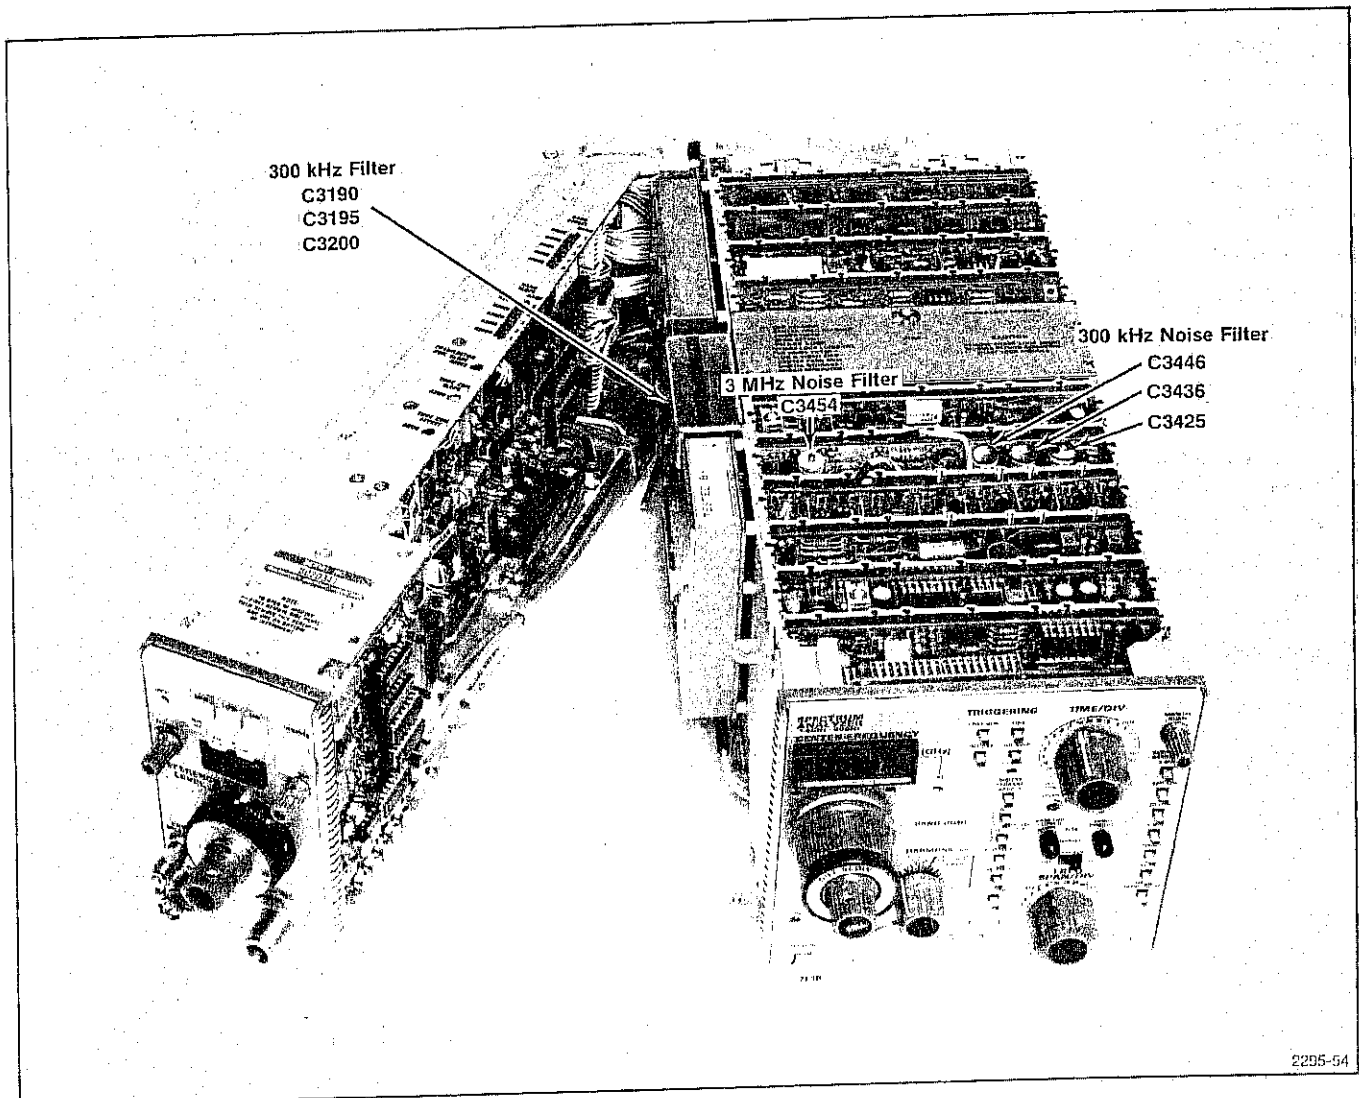

Fig. 4-46. Adjustments for 300 kHz Filter, 300 kHz Noise Filter, and 3 MHz Noise Filter.
d. Adjust the 300 kHz filter and the 300 kHz Noise Filter with C3190, C3195, C3200, C3425, C3436, and C3446 (see Fig. 4-46) for the best amplitude, symmetry, and shape around the 3 kHz reference center frequency.